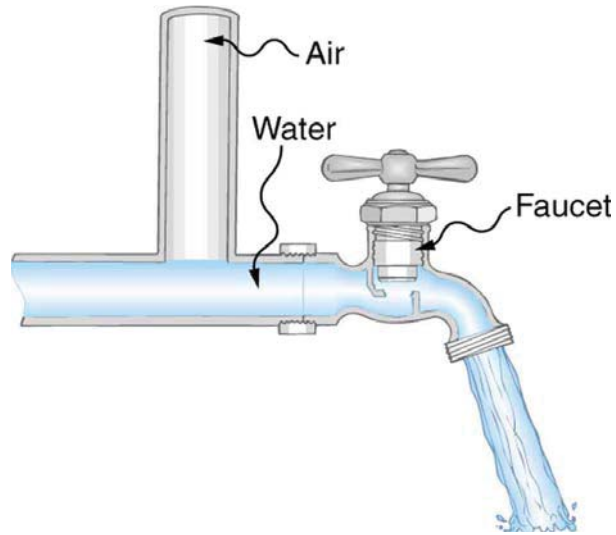

Figure 12.27 The vertical tube near the water tap remains full of air and serves a useful purpose.
- 25.** Plumbing usually includes air-filled tubes near water faucets, as shown in **Figure 12.27**. Explain why they are needed and how they work.